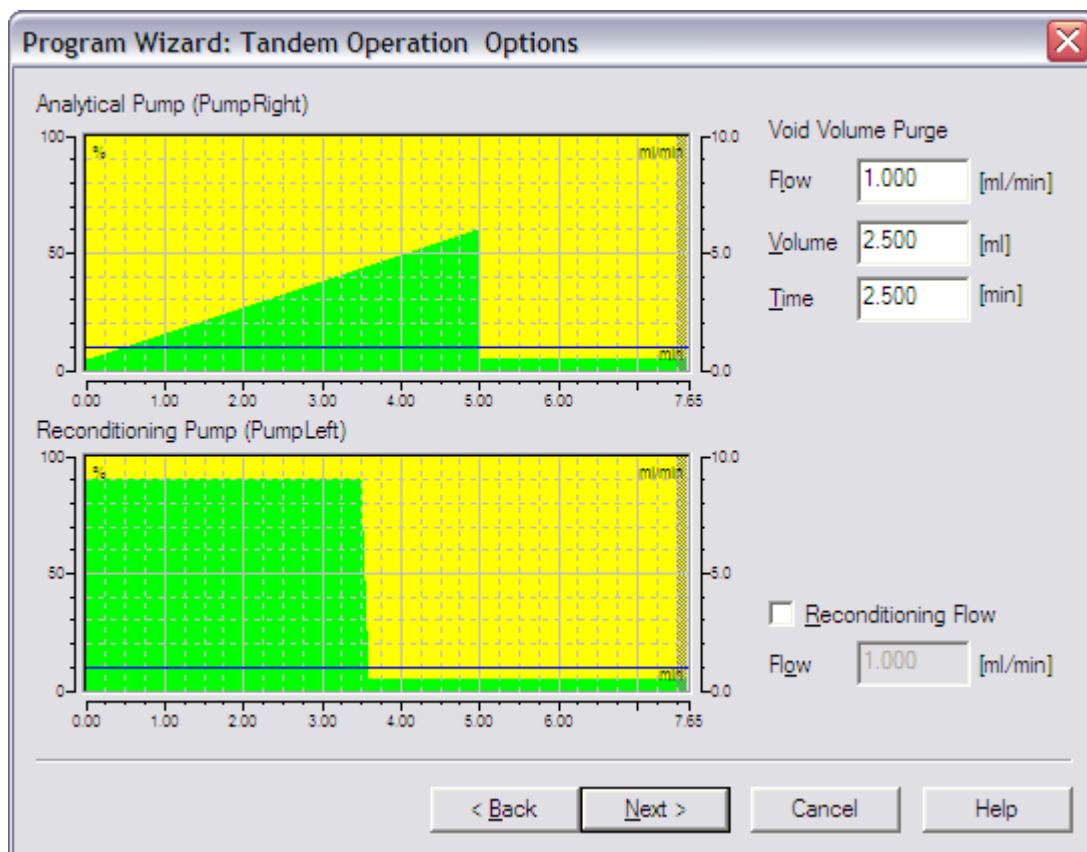

FIGURE 5-9: Program wizard – Tandem Gradient Options continued.
- Next the **Void Volume Purge** is specified and optionally the **Reconditioning Flow** can be set, as depicted in FIGURE 5-9. Determine the void volume between the pump and switching valve. Purge the related solvent lines 2 to 3 times to make sure that the solvent composition corresponds to the starting composition. After off-line reconditioning has been started, the analytical pump flushes the solvent lines between the pump and the switching valve. The solvent line has to be purged before the switching valve can be switched.